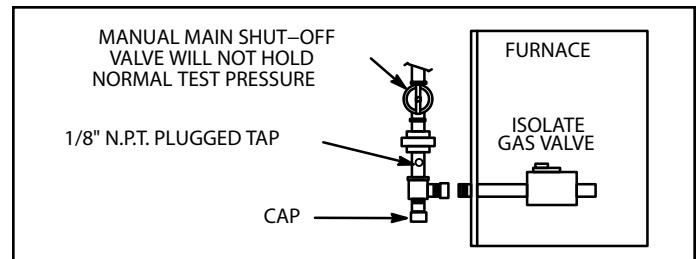

Figure 47.
5. A 1/8" N.P.T. plugged tap or pressure post is located on the gas valve to facilitate test gauge connection. See Figure 47.
When testing pressure of gas lines, gas valve must be disconnected and isolated (see Figure 47). Gas Valves can be damaged if subjected to pressures greater than 1/2 psig (3.48 kPa).